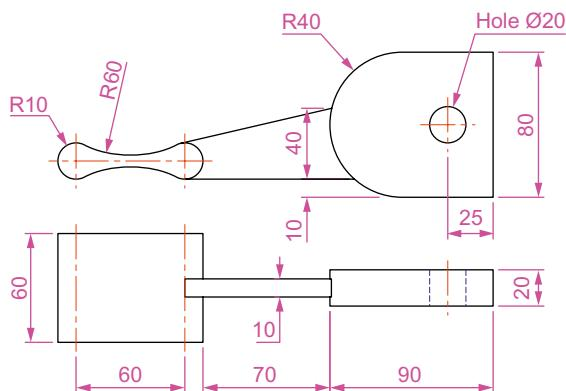

Fig. 18.17 Third example – 3D models – details of shapes and sizes
- Front.** Construct the three plines needed for the extrusions of each part of the model (details Fig. 18.17). Extrude to the given heights. Subtract the hole from the 20 high extrusion.